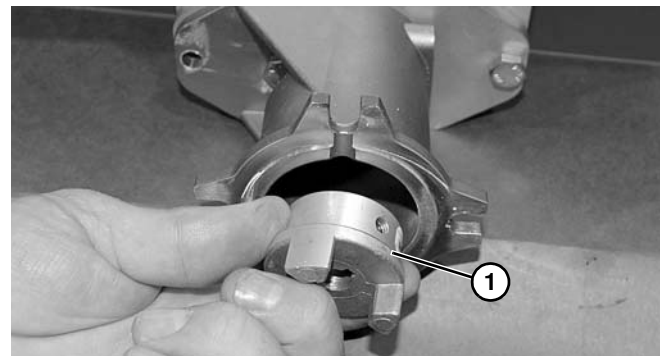
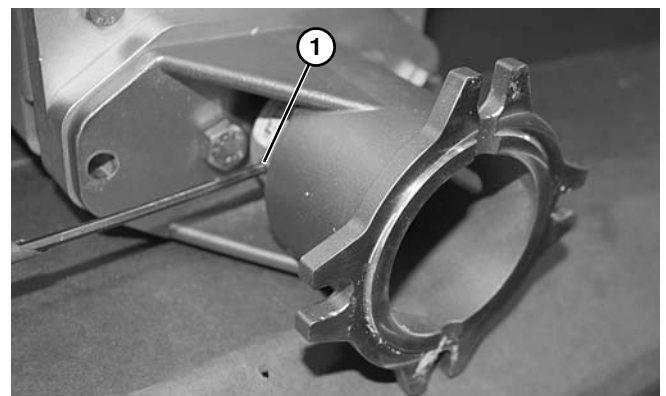

Figure 18
Figure 19
- Insert 3 jaw coupling (Figure 18, item 1) onto conveyor shaft. The end of the shaft should be flush with the end of the coupling. Secure with set screw (Figure 19, item 1).